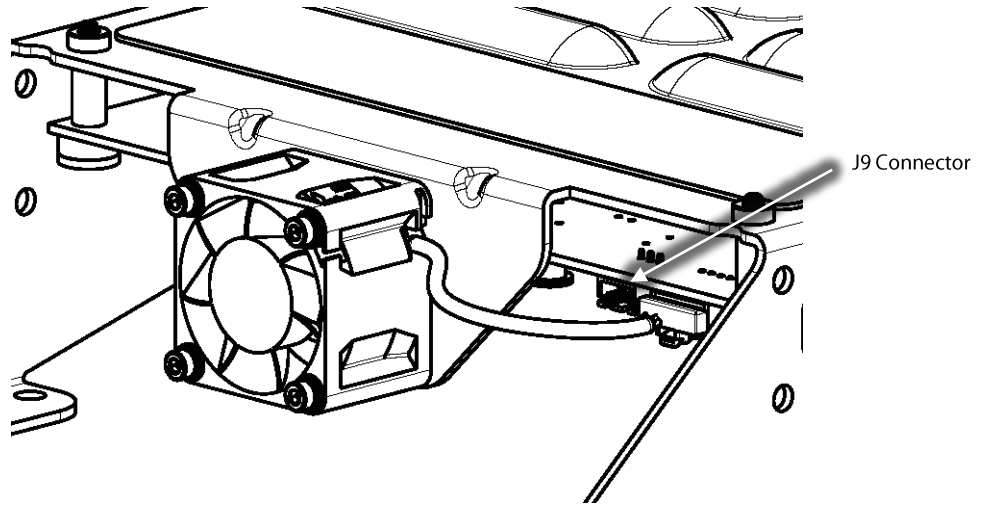

Figure 1 – Soft Start J9 Connector
5. Release the nine (9) captive screws that secure the Top Cover and remove the cover, taking particular care not to touch ANY components underneath.
6. Using an appropriately rated volt meter, check the DC bus bars for voltage level. If the voltage is above 5VDC, wait five (5) minutes and recheck until 5VDC or below is achieved.
- For F Series and later compressors, remove the Soft Start Temperature Harness. Refer to Figure 1 (Soft Start J9 Connector).